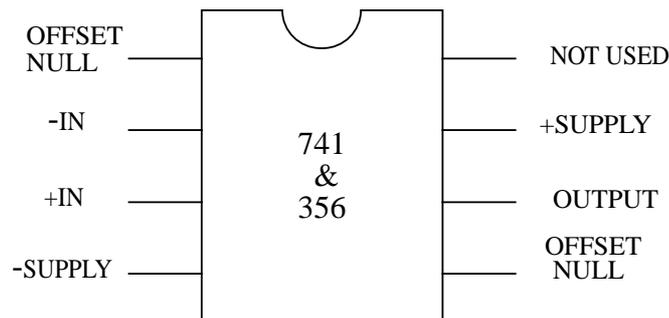

Figure 3: Pin assignments for the 741 op-amp.
- (4-4) Following your design from Pre-Lab Exercise 4-3, construct the digital-to-analog converter using a 741 op-amp and the resistors in the package obtained earlier. Figure 3 shows the pin assignments for the 741 op-amp. Do not yet connect the converter data-bit inputs to the data-bit outputs from the memory. Rather, adjust the offset voltage v_{OFF} to 0 V, and connect each input individually to the 5-V power supply while leaving the other inputs grounded. Then, measure v_{DAC} with the multimeter, and compare the measurements to the data in the table prepared during Pre-Lab Exercise 4-4 to determine whether or not the converter is functioning properly.
- (4-8) Following your design from Pre-Lab Exercise 4-7, construct the volume control stage using a 741 op amp, but do not yet connect it to the speaker. Figure 3 shows the pin assignments for the op-amp. Set the function generator to produce an unbiased 1-kHz sinusoid with a 2-V peak-to-peak amplitude and connect it to the input of the buffer. With one channel of the oscilloscope, observe the input to the volume control stage, and trigger the oscilloscope from that channel. With the other channel, observe the volume control stage output v_{OUT} . Vary the frequency of its input voltage and compare the frequency response of the volume control stage to that predicted by the table prepared during Pre-Lab Exercise 4-8 to determine whether or not the volume control stage is functioning properly.